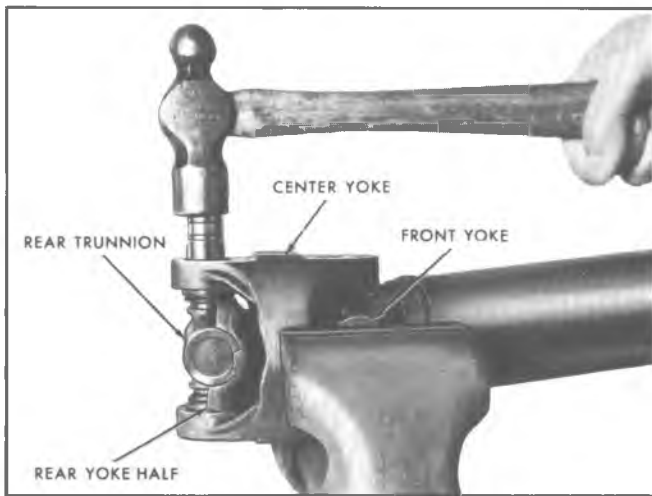

Fig. 30—Driving Out Bearing Cups
Four wheel drive models use a front propeller shaft incorporating a constant velocity joint, shown in figure 30.
3. Place propeller shaft in vice as shown in figure 30. Drive one rear trunnion bearing cap from center yoke as shown in figure 30 until it protrudes approximately 3/8".